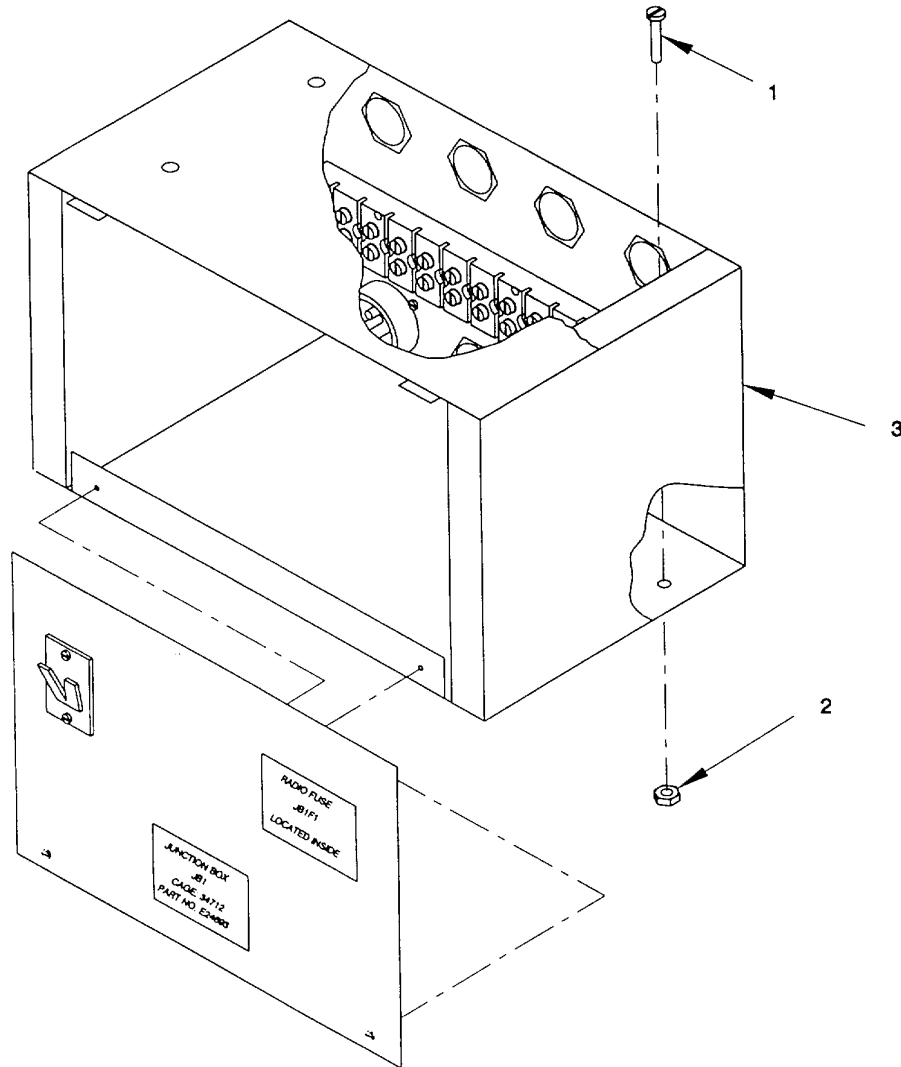

Figure 2-149. Junction Box Assembly "JB1", Remove/Install.
- a. *Remove.* (figure 2-149)
- (1) Loosen two door screws securing hinged front of junction box (3). Open front to access inside of box.
- (2) Tag and disconnect electrical wiring to junction box (3). Refer to box wiring diagram in figure 2-149 and Appendix G.
- (3) Remove four pan head capscrews (1) and four hex nuts (2) securing junction box (3) to cab structure. Remove junction box (3).
- b. *Install.* (figure 2-149)
- (1) Apply antiseize compound to threads on pan head capscrews (1).
- (2) Position junction box (3) on cab structure. Secure with four pan head capscrews (1) and four hex nuts (2).
- (3) Reconnect electrical wiring, as tagged, to junction box (1). Refer to box wiring diagram in figure 2-149 and Appendix G.
- (4) Close front and tighten two door screws to secure.
- (1) Loosen two door screws securing hinged front of junction box. Open front to access inside of box.
- (2) Locate fuse holder (2) inside of JB1, inline with red wire 392A. Twist two parts of fuse holder in opposite directions and slide apart. Remove fuse (1). Refer to figure 2-149 and Appendix G for electrical wiring diagrams and schematics.